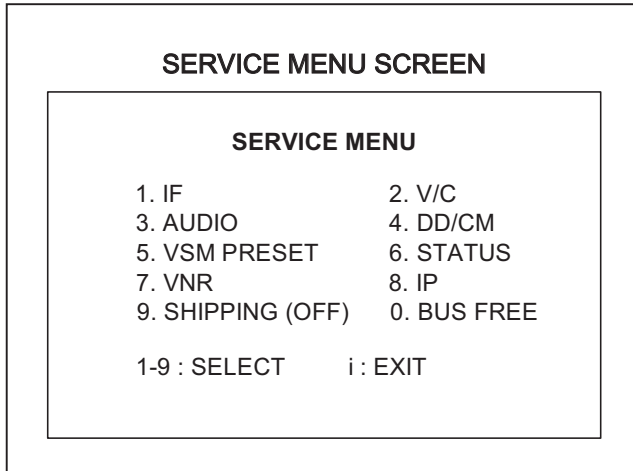

Fig.4
- (1) Press the [INFORMATION] key and the [MUTING] key of the REMOTE CONTROL UNIT simultaneously, and the SERVICE MENU screen of Fig.4 will be displayed.
- (2) When the Main Menu is displayed, press any key of the [1] to [0] key to enter the corresponding menu mode.